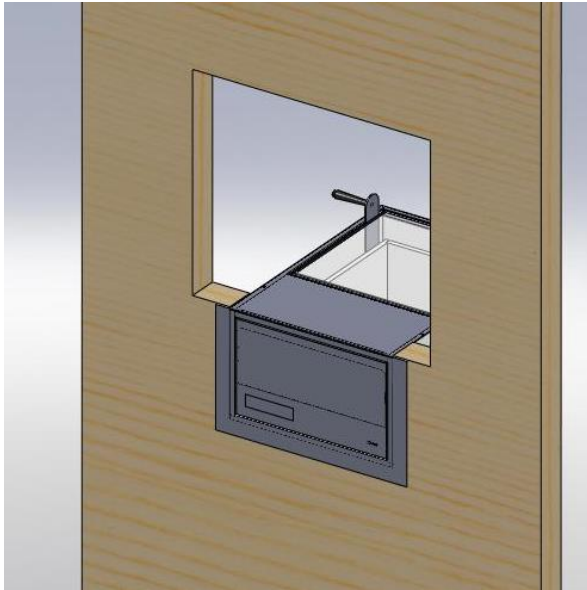

Figure 7. Drawer assembly flush against the wall surface
- A. Slide the entire drawer assembly into the wall cut-out until the flange is flush against the wall (**Figure 7**).